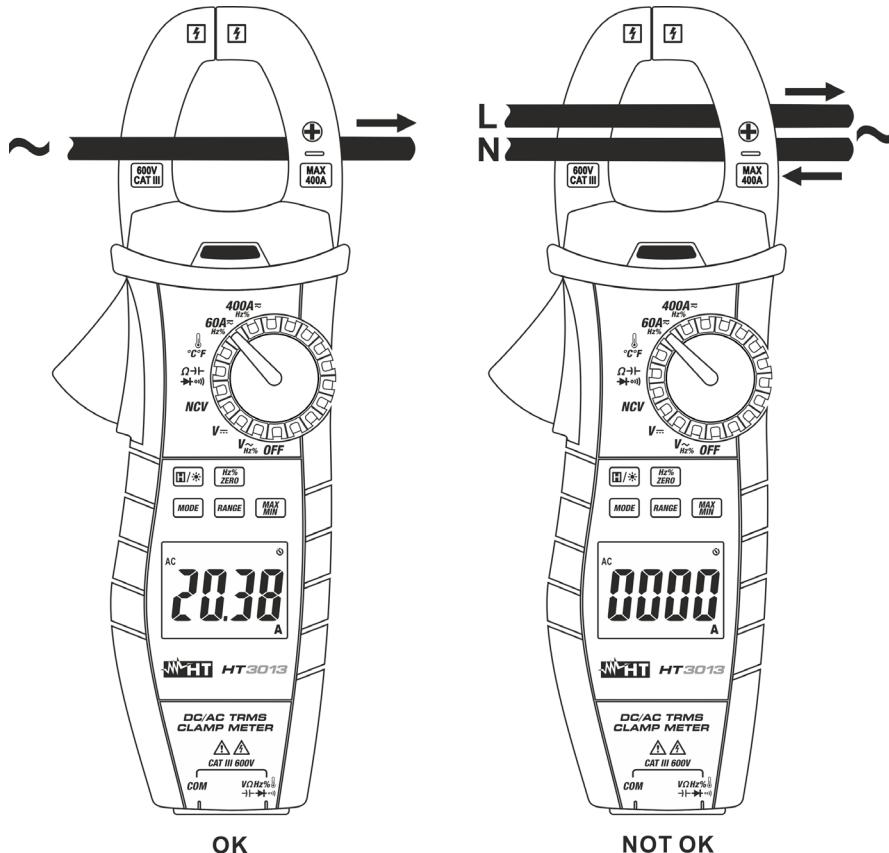

Fig. 11: Use of the instrument for AC and DC current measurement
6. In **DC mode** the “-” symbol at display means that the meter is connected in the opposite side compared with current direction (see Fig. 11). Follow the polarity indication arrow on the instrument's side (see Fig. 1 – part 13)